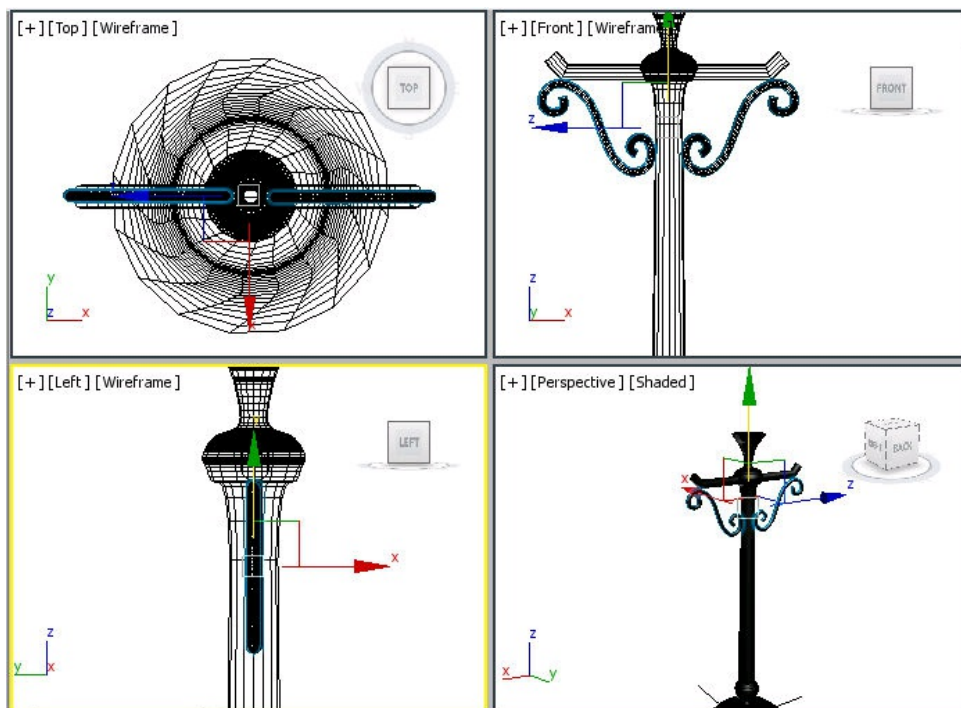

Figure 6-63 The design01 and design02 aligned
6. Create a copy of *design01* and name it as *design02*. Next, align *design01* and *design02* in all viewports using the **Select and Move** and **Select and Rotate** tools, as shown in Figure 6-63.